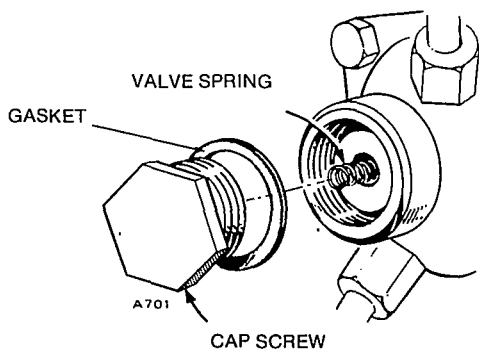

FIGURE 25. EARLY MODEL DELIVERY VALVE HOLDER
9. On early model (Figure 25) injection pumps, remove capscrew and install valve spring and capscrew with gasket. Torque capscrew to 75 to 89 ft.-lb. (102 to 120 Nm).